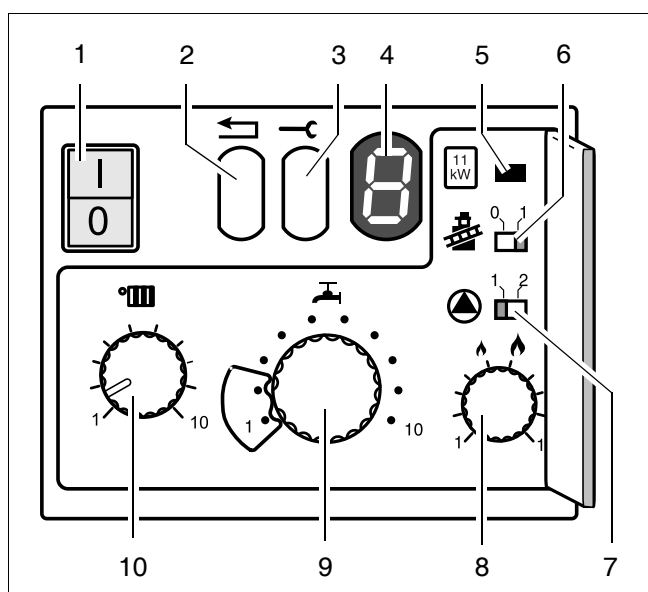

Fig. 28 UBA
- Take the boiler out of service by pressing the power switch (fig. 28, item 1) to "0".
- Set the power switch (fig. 28, item 1) to "1".
- Create a heat demand setting the chimney sweep switch to "1" (fig. 28, item 6). The burner should ignite after about 30 seconds.